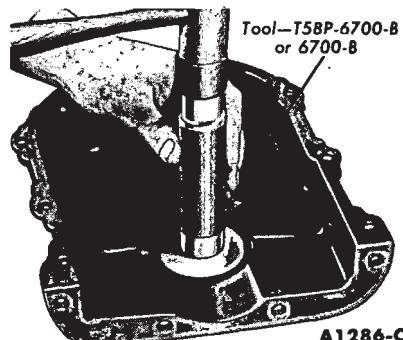

FIG. 25—Installing Oil Seal
2. Coat a new seal with grease, and install the seal. Drive the seal in until it is fully seated in the recess (Fig. 25). Check the seal after installation to be sure the spring is properly positioned in the seal.